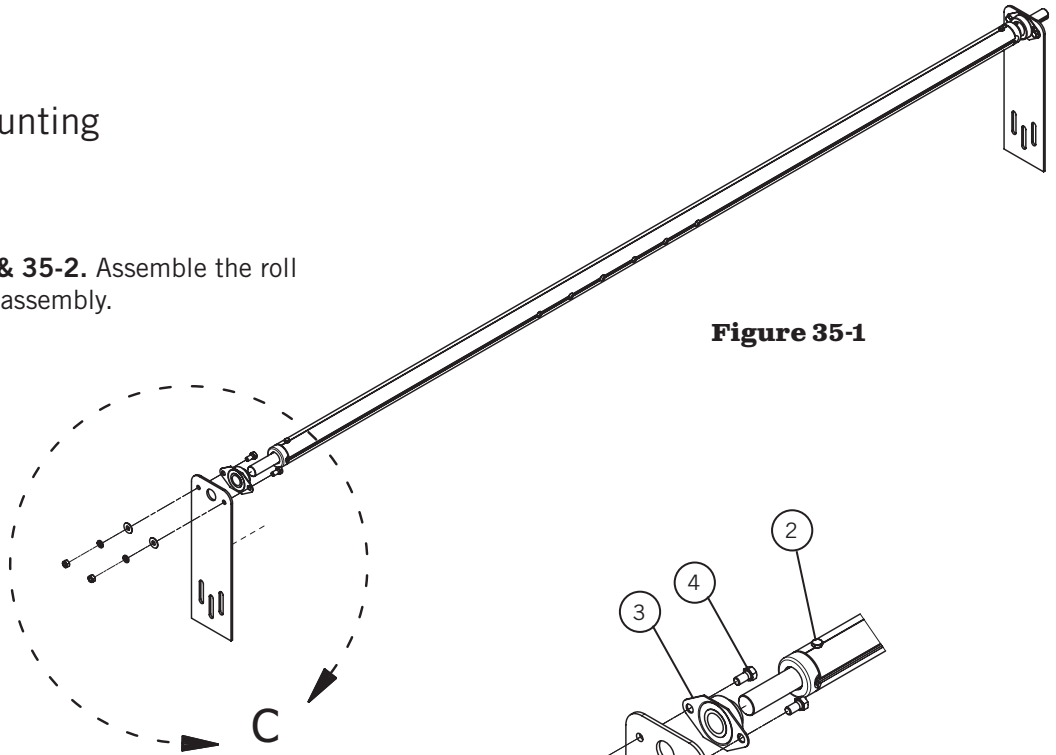

Figure 35-1
- 1) Figures 35-1 & 35-2. Assemble the roll bar mounting assembly.